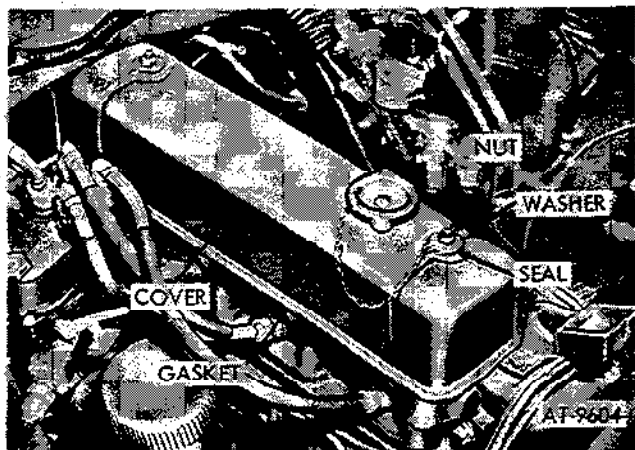
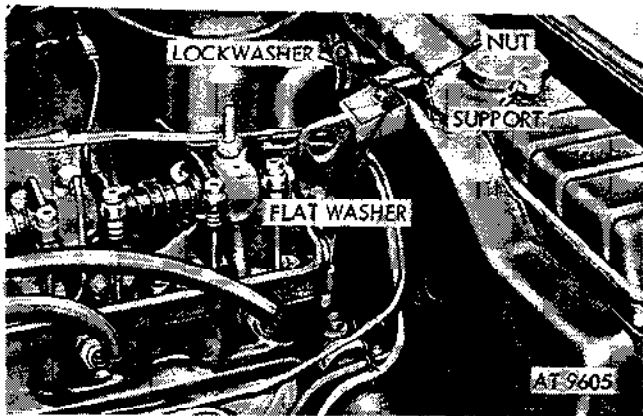
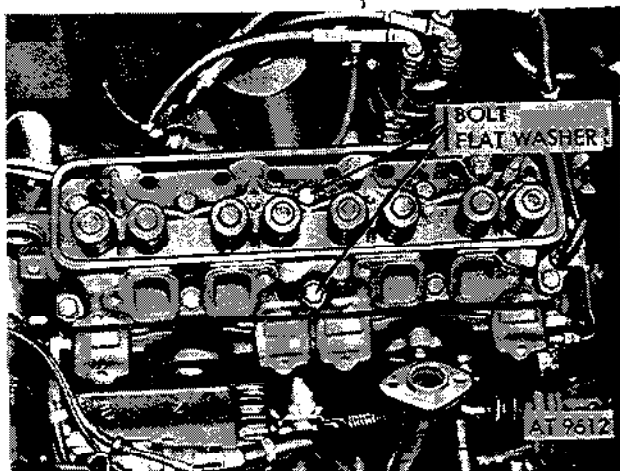

Figure 2-57. Remove rocker arm cover and gasket.
Figure 2-58. Remove radiator top support (rubber).
Figure 2-65. Remove head from block.
(6) Remove two rocker arm cover nuts, washers and seals (fig. 2-57).
(7) Remove rocker arm cover and gasket. Remove gasket from cover and discard gasket.
(8) Remove two nuts, lockwashers and flat washers. Remove radiator top support rubber (fig. 2-58).
(9) Remove connector from water tem-
(18) Remove ten bolts and flat washers securing cylinder head to cylinder block. Remove head from block (fig. 2-65).
b. *Installation.* To install the cylinder head reverse removal procedures and refer to figures 2-65 back through figure 2-57.